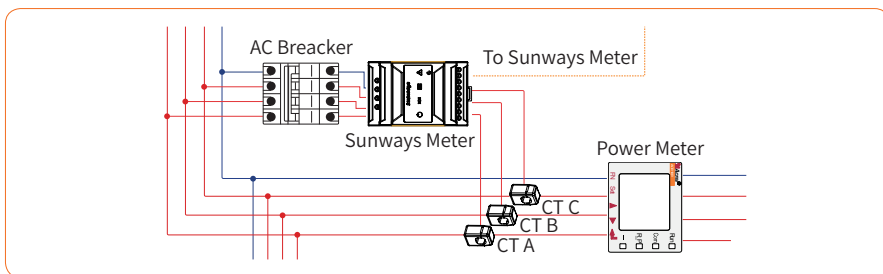

Figure 4-35 Meter wiring diagram
② The CTs have been connected to the Sunways Meter when you received them, and you just need to follow the wiring diagram in the Meter to connect CT, as shown in Figure 4-35.